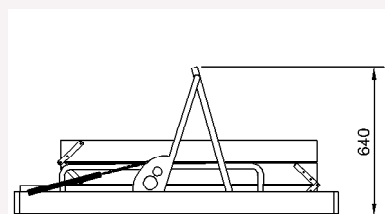

fig 2
5. The area for the opening must be clear of wiring, plumbing and structural members such as beams and trusses with a minimum clear height above the ceiling of 640mm (figure 2).